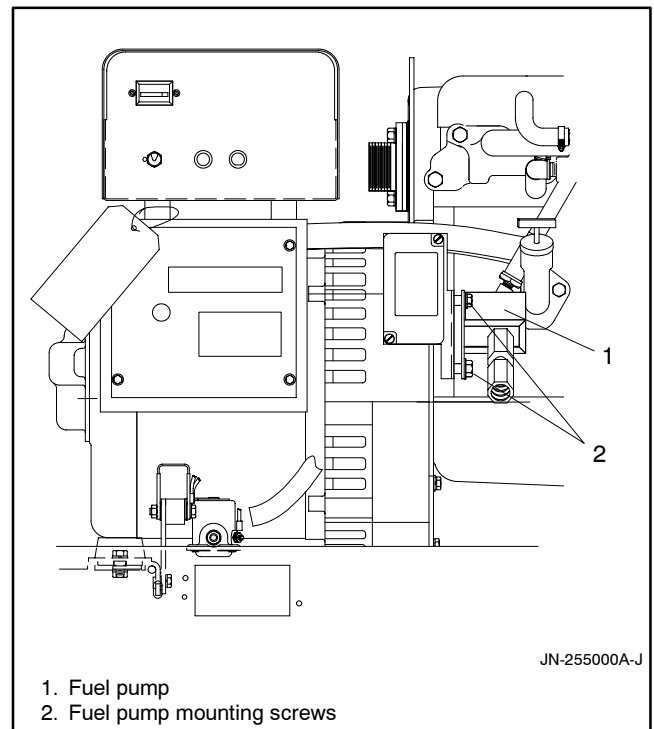

Figure 6-9 Fuel Pump
19. Remove two bolts and lock washers securing fuel pump to adapter. See Figure 6-9.